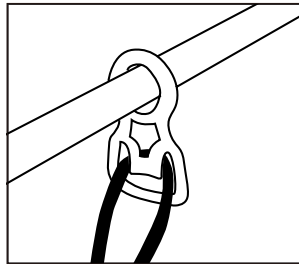

Fig. 15
3. Gently pull on the cord to ensure that it is firmly attached (Fig. 15).